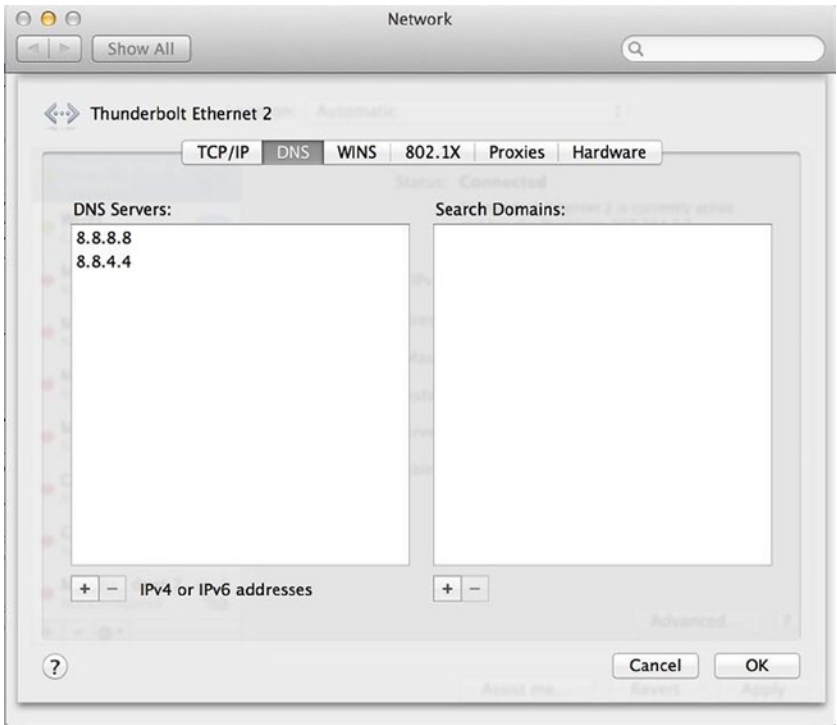

Figure 5-17. Configuring the DNS servers on MacOSX
- 4. Click on Advance and select the DNS tab to configure the DNS server, as shown in Figure 5-17.